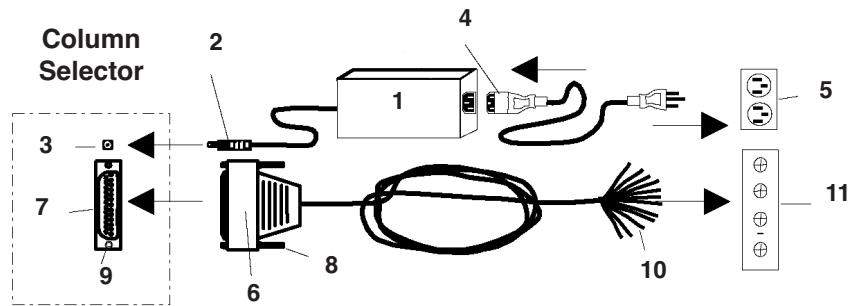
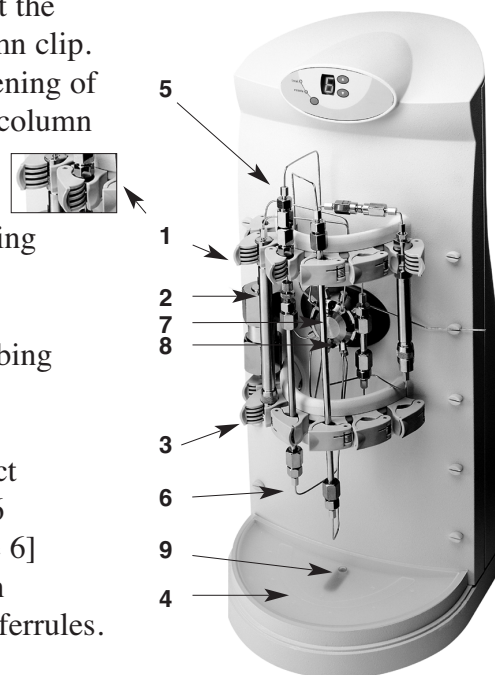

Fig. 3. Electrical and communications connections to Column Selector.
**Fig. 4. Four line control.**
1. See Figure 3 for an illustration of the electrical connections.
1. All electrical and communications connections to the Column Selector are made in the rear of the unit (see Fig. 3):
- a) Plug the Power Supply (1) male-barrel terminal (2) into the Column Selector female port (3).
- b) Plug the IEC 320 connector (4) of the Power Line Cord into the Power Supply box (1).
- c) Plug the opposite end of the Power Line Cord into a properly grounded power source (5). The *Universal Power Supply* can be operated from *inputs* of 100-240 VAC, 50-60 Hz. The *output* is 24VDC, 1.7A.
- (1) *Line control* using the interface cable with *contact closures* or *TTL* relays.
- (2) *Serial communication* using an RS-232 cable and software.
- b) For *line control* use the supplied 25-pin *Interface Cable*. The Cable is plugged into the 25-pin terminal on the Column Selector. The loose wires on the opposite end of the Cable are wired to an appropriate *output* device on your instrument, such as an *External Event Relay* or a *Time Function Switch*. The *output* must be either *contact closure* or *TTL* in order to connect the Column Selector to your instrument (see **Caution - III. A. 1.**). See Figure 3.
- (1) Plug the *Interface Cable* connector (6) into the 25-pin terminal (7) located on the rear of the Column Selector. Tighten the connector screws (8) into their mating terminal ports (9).
- (2) Connect the color coded *Interface Cable* wires (10) to the HPLC controller *contact closures* or *TTL* relay (11), as described in more detail in the next section “Input Line Control.”
- c) For *serial communication* the *interface cable* is replaced with a RS-232 cable. The serial cable is connected between the 25-pin terminal on the Column Selector and the appropriate *output* on your computer. See Figure 3.
- (1) Plug the RS-232 cable connector (6) into the 25-pin terminal (7) located on the rear of the Column Selector. Tighten the connector screws (8) into their mating terminal ports (9).
- (2) Connect the opposite end of the RS-232 cable (not shown) into the HPLC controller computer port, as described in more detail in **Section VI.e.**
- a) 4-line *BCD* control. The control instrument used must have four (4) *TTL* or *contact closure outputs*. This method of control allows direct access to any chosen column position.
- (1) 4-Line *BCD* Control (independent selection of any position):
- (b) Wiring the *interface cable* (1) to the HPLC (2) with 4-line *BCD* control (see Fig. 4):
- (4) A 4-line *BCD* generic time programming example follows. (Note: the actual programming will vary depending on the manufacturer of the HPLC used):
- (5) Wiring the interface cable (1) to the HPLC (2) with 4-line *BCD* control is shown in Fig. 4.